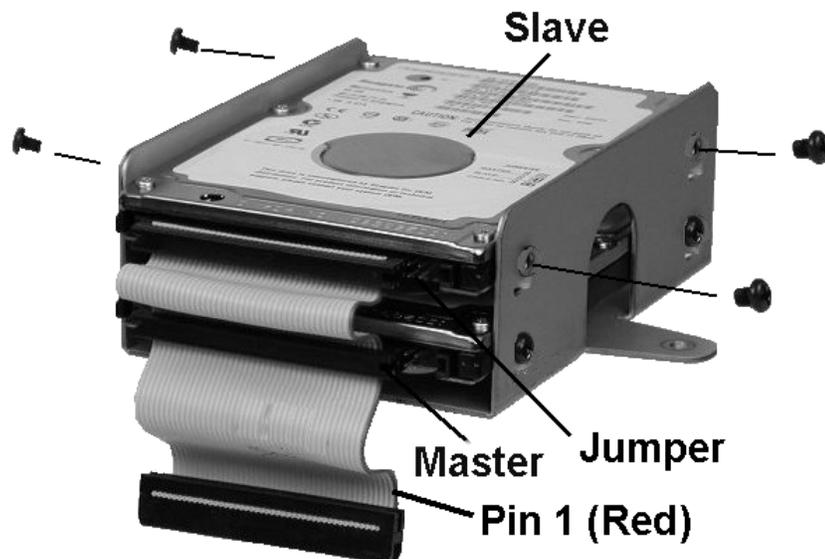

Figure 3-21: Installing a Second Hard Disk
4. Install the second hard disk in the upper section of the drive bracket and connect it to end of the interface cable as shown in Figure 3-21.